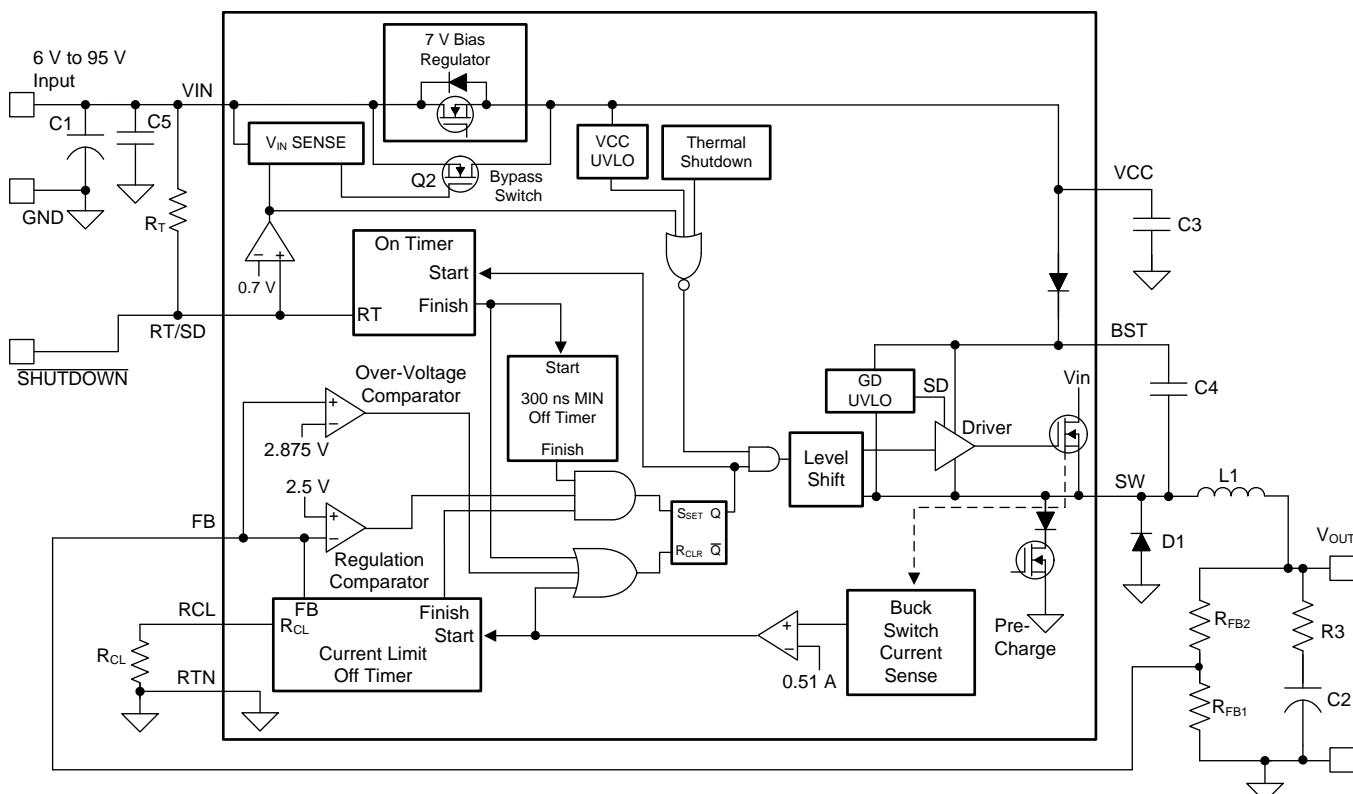

Figure 50. Functional Block Diagram
The output voltage (V_{OUT}) is programmed by two external resistors as shown in Figure 50. The regulation point can be calculated with Equation 7.
The LM5008A regulates the output voltage based on ripple voltage at the feedback input, requiring a minimum amount of ESR for the output capacitor C2. A minimum of 25 mV to 50 mV of ripple voltage at the feedback pin (FB) is required for the LM5008A. In cases where the capacitor ESR is too small, additional series resistance may be required (R_3 in the Figure 50).
The high voltage bias regulator is integrated within the LM5008A. The input pin (VIN) can be connected directly to line voltages between 6 V and 95 V, with transient capability to 100 V. Referring to the Figure 50, when V_{IN} is between 6 V and the bypass threshold (nominally 8.5 V), the bypass switch (Q2) is on, and V_{CC} tracks V_{IN} within 100 mV to 150 mV. The bypass switch on-resistance is approximately $100\ \Omega$, with inherent current limiting at approximately 100 mA. When V_{IN} is above the bypass threshold Q2 is turned off, and V_{CC} is regulated at 7 V. The V_{CC} regulator output current is limited at approximately 9.2 mA. When the LM5008A is shut down using the RT/SD pin, the V_{CC} bypass switch is shut off regardless of the voltage at V_{IN} .